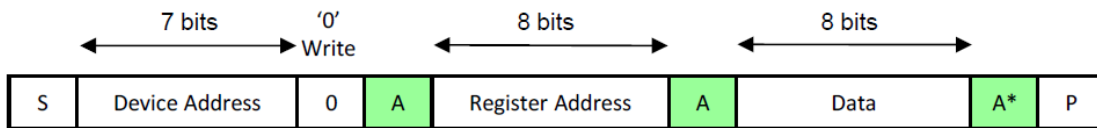

Figure 4. I²C Write – Slave Receiver Mode
1. Slave Receiver Mode (Write Mode): Serial data and clock are received through SDA and SCL. After each byte is received an acknowledge bit is transmitted. START and STOP conditions are recognized as the beginning and end of a serial transfer. Address recognition is performed by hardware after reception of the slave address and direction bit (see Figure 4 for Interface). The slave address byte is the first byte received after the master generates the START condition. The slave address byte contains the 7-WL2868C address followed by the direction bit (R/W), which, for a write, is 0. After receiving and decoding the slave address byte the device outputs an Acknowledge on the SDA line. After the WL2868C acknowledges the slave address + write bit, the master transmits a register address to the WL2868C. This sets the register pointer on the WL2868C. The master may then transmit zero or more bytes of data, with the WL2868C acknowledging each byte received. The address pointer will increment after each data byte is transferred. The master generates a STOP condition to terminate the data write.